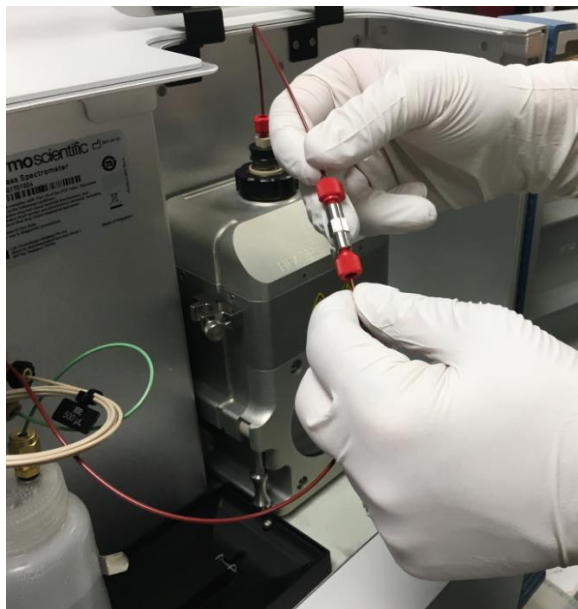

Figure 97: Disconnecting PEEK capillary connection of source at grounding union
- 8) Disconnect the PEEK capillary going from the probe to the grounding union as shown in Figure 97.